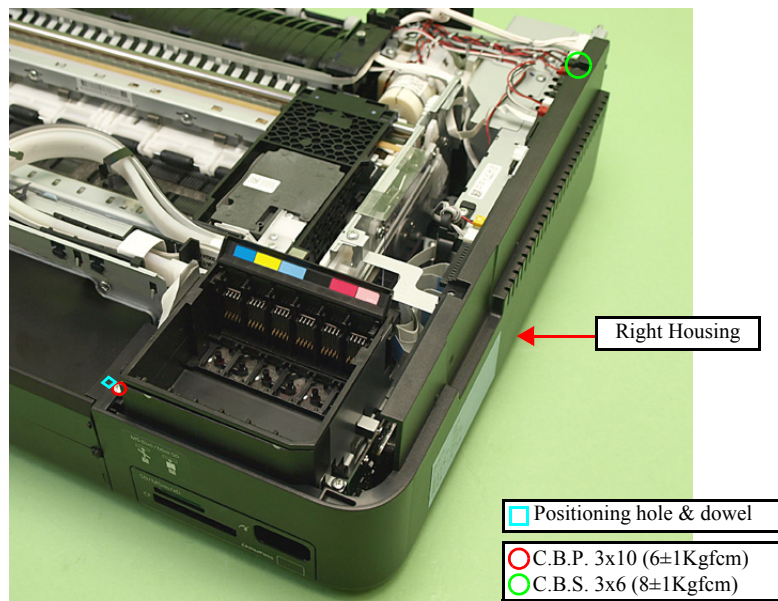

Figure 4-29. Removing the Right Housing/Card Cover (1)
2. Release the dowel (x1) on the front side (see Fig. 4-29) and hooks (x3) on the bottom of the Right Housing, and remove the Right Housing.
- Align and insert the dowel of the Base Frame to the positioning hole of the Right Housing. (See Fig. 4-29.)